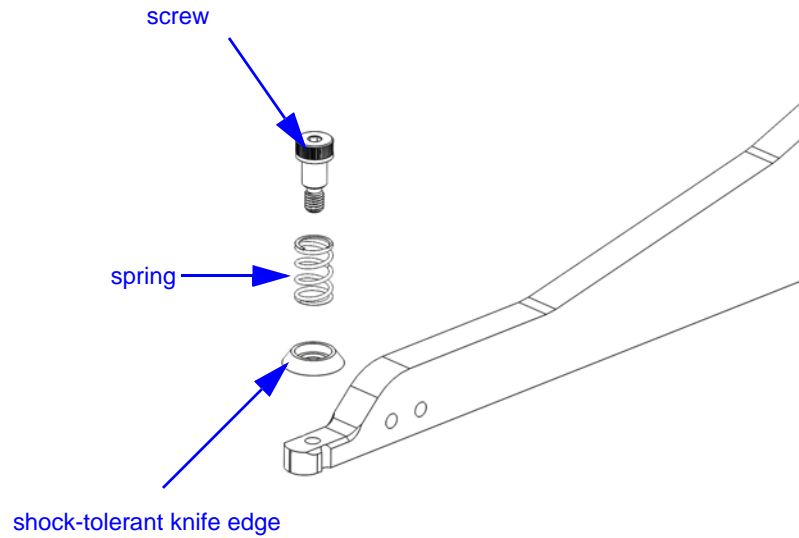

Figure 17. *Installing Shock-Tolerant Knife Edges*
3. Use the 2mm hex key to install the shock-tolerant knife edges and springs as shown in Figure 17 on page 52).